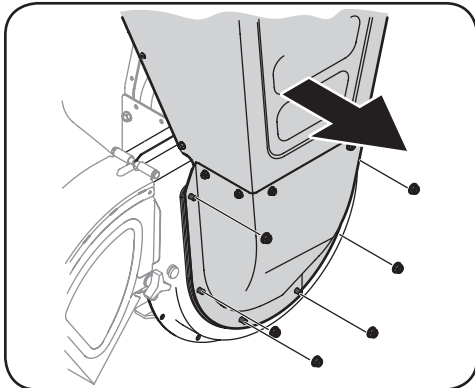

Figure 5-7
- Remove six flange nuts which secure hopper inlet guide to impeller housing. See Figure 5-7.